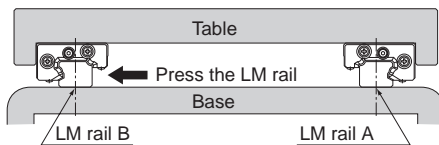

Fig.23
- (3) Temporarily secure LM rail B onto the base, then mount the blocks on the rail by sliding the blocks. Temporarily fasten LM rail B while pressing it toward the LM blocks. (Fig.23)